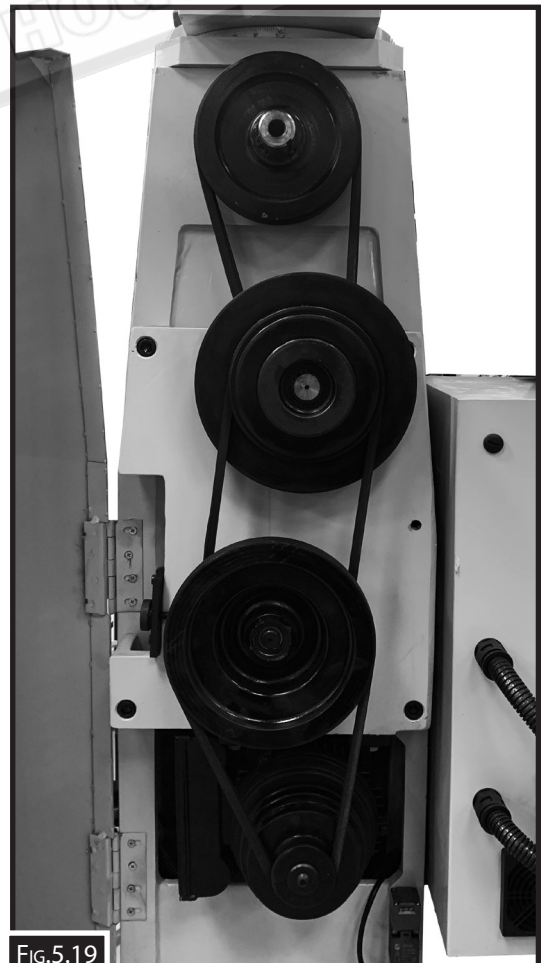

FIG.5.19
2. Open horizontal V-belt cover to gain access to the horizontal spindle V-belts and pulleys, (Fig. 5.19)